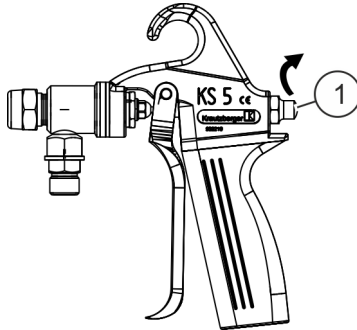

Fig. 29: Screw in valve lock screw
8. ➤ Tightly screw in valve lock screw (Fig. 29/1).